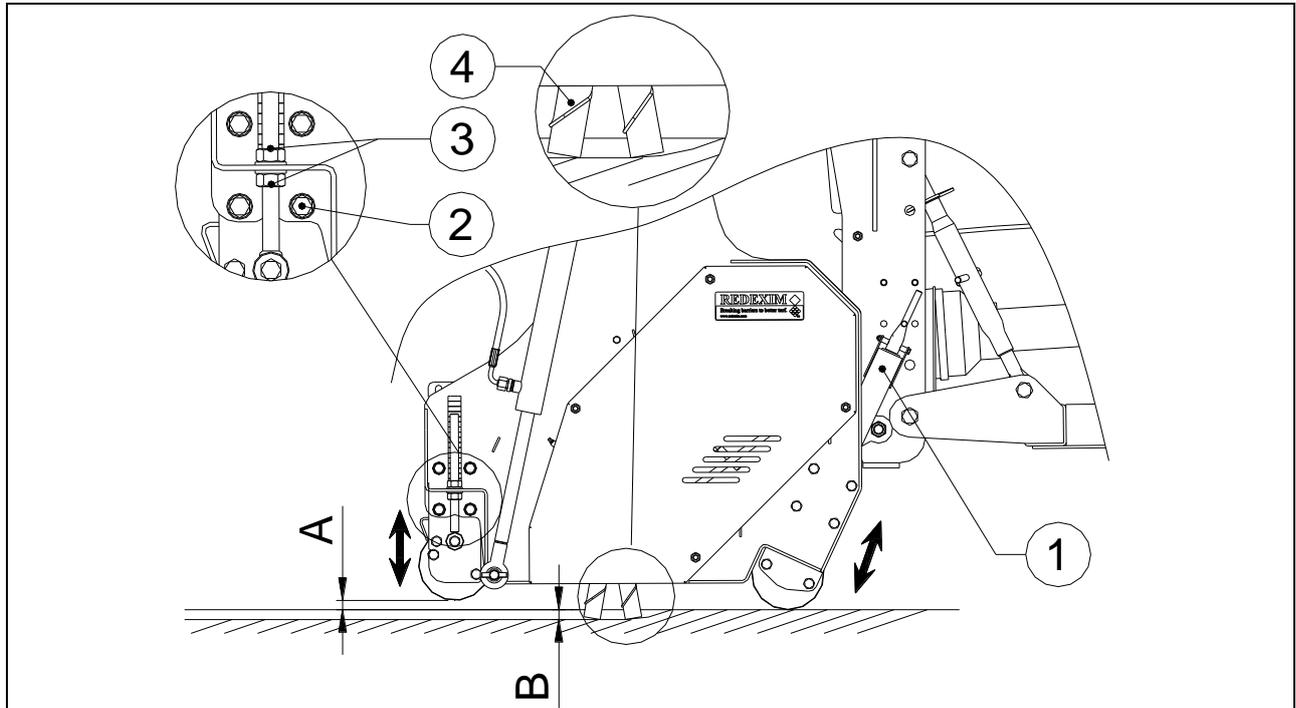

Fig. 9
- ⚠ **If wind vanes (See fig. 9 item 4) have been fitted, never increase the depth to ensure that the wind vanes remain above the surface. !! If this is not observed, the surface and the machine can be seriously damaged!!**
If wind vanes (See fig. 9 item 4) have been fitted, never increase the depth to ensure that the wind vanes remain above the surface.
5. (See Fig.9) Loosen the bolts 2 on both sides of the machine and adjust the rear roller using nuts 3 until the distance above the ground A is 10mm (0.4") and align on both sides.
6. (See Fig.9) Secure the nuts 3 and bolts 2 properly.